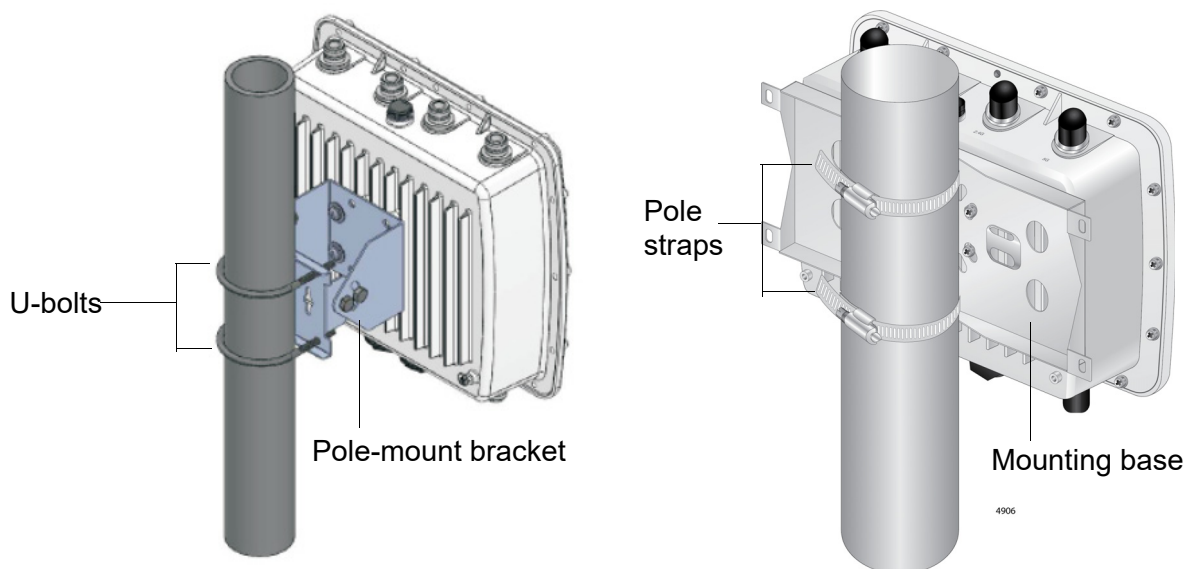

Figure 26. Two Methods of Pole Installations
The TQ5403e access point can be mounted on a pole using either the U-bolts and pole-mount bracket or the pole straps and mounting base. See Figure 26.
- ❑ The access point must be installed with the front panel down, as shown in Figure 26 on page 56.